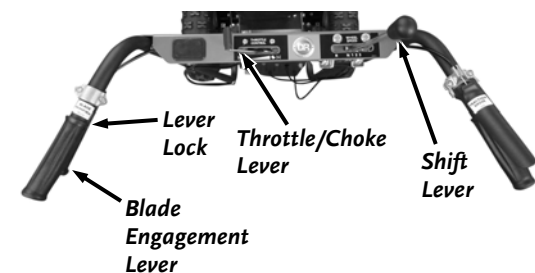

Figure 16
1. Engage the Blade by pressing the Lever Lock (see **Figure 6** on page 10), then squeezing the Blade Engagement Lever to the Handle (**Figure 16**).
1. Release the Blade Engagement Lever (**Figure 16**).
1. Stop the Blade by releasing the Blade Engagement Lever (**Figure 16**).